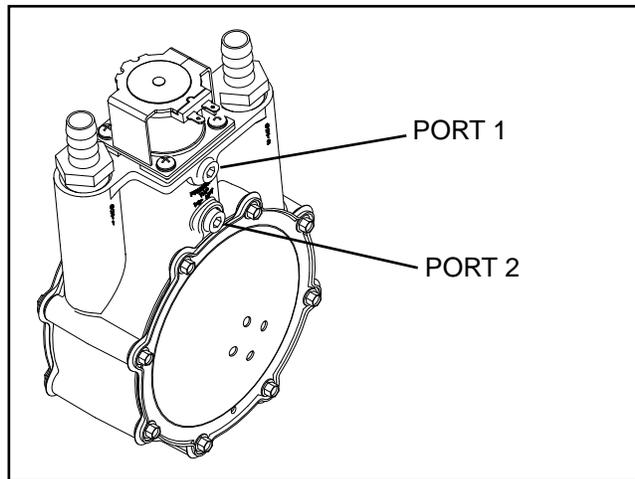
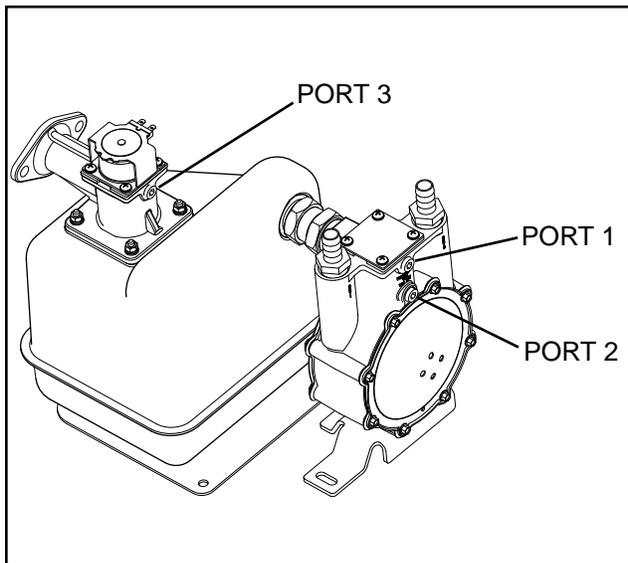

Figure 18 (8 kW) Gas Pressure Test point
Figure 20 (12-20 kW) Gas Pressure Test point
1. See Figures 18, 19 or 20 for the gas pressure test point on the fuel regulator. The fuel pressure can be checked at Port 1 on all fuel regulators, and at Port 3 on 12-20 kW units.
1. Install a manometer to Port 2 on the fuel regulator. See Figure 18 or Figure 20.